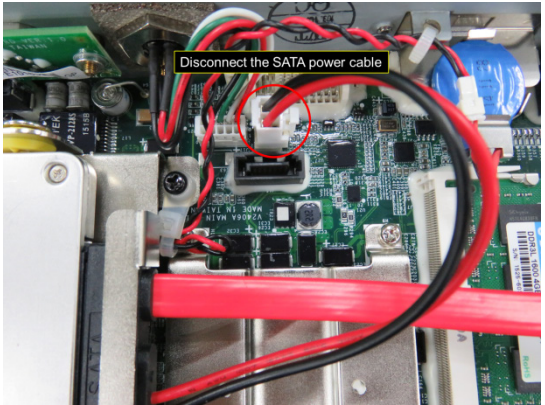

Figure 15
4.2.2.2 Disconnect the SATA power cable from the main board as shown in Figure 15.